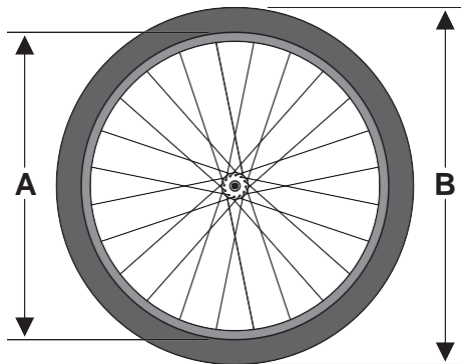
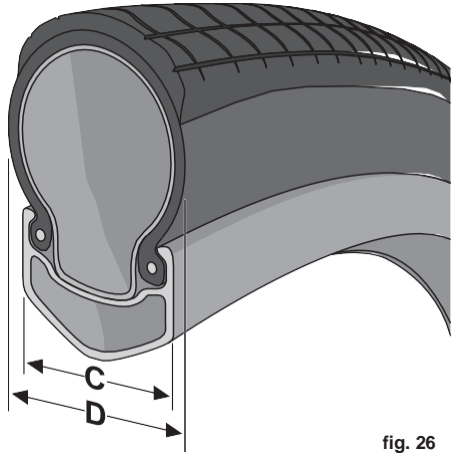

fig. 25
fig. 26
Wheel rims and tires come in a wide range of diameters (fig. 25) and widths (fig. 26). The nominal diameter of the rim (A) must match the nominal diameter of the tire (B), and the width of the rim (C) must be compatible with the width of